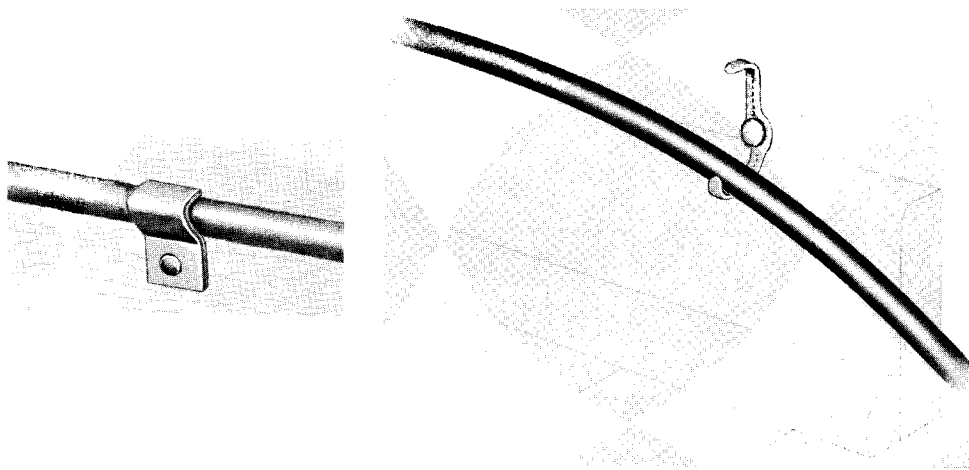

Fig. 1 — Cable Clamp and Cable Clasp
3.02 A *cable clamp* and a *cable clasp* are shown in Fig. 1. Table A indicates the fasteners to be used to attach cable clamps and cable clasps to various surfaces.